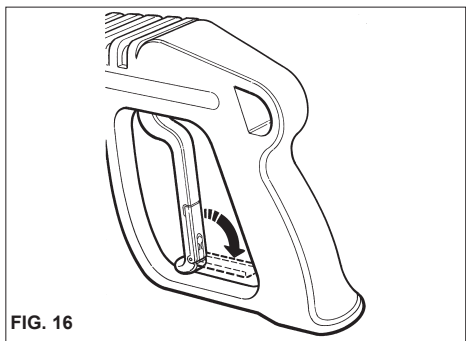

FIG. 16
- When the water cleaner is not used, close the safety device on the handle.(fig. 16).